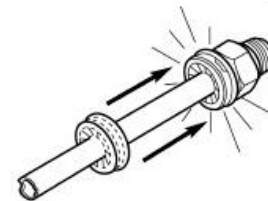

Figure 30 – Quick Connect Fittings
8. Align transmission cooler line with quick connect fitting while pushing straight into the fitting (Figure 30).
9. Push in on transmission cooler line until a “click” is heard or felt (Figure 30).